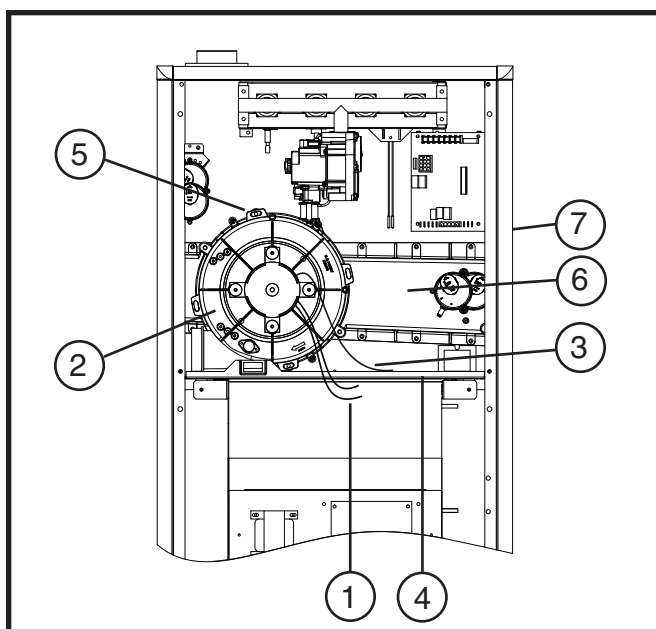

Figure 10. Inducer Assembly Rotation
1. Disconnect the electrical harness (1) from the inducer assembly (2) as shown in Figure 10 (page 15).
2. Remove the inducer assembly ground wire (3) from the blower deck (4) or door.
3. Remove four screws (5) securing the inducer assembly (2) to the header box (6).
4. Rotate the inducer assembly (2) to its new position.
5. Secure the inducer assembly (2) to the header box (6) by reinstalling the four screws (5) and the extra screw provided in the parts package.
6. Remove the cabinet plug (7) from side of furnace and reinstall in hole on opposite side of cabinet.